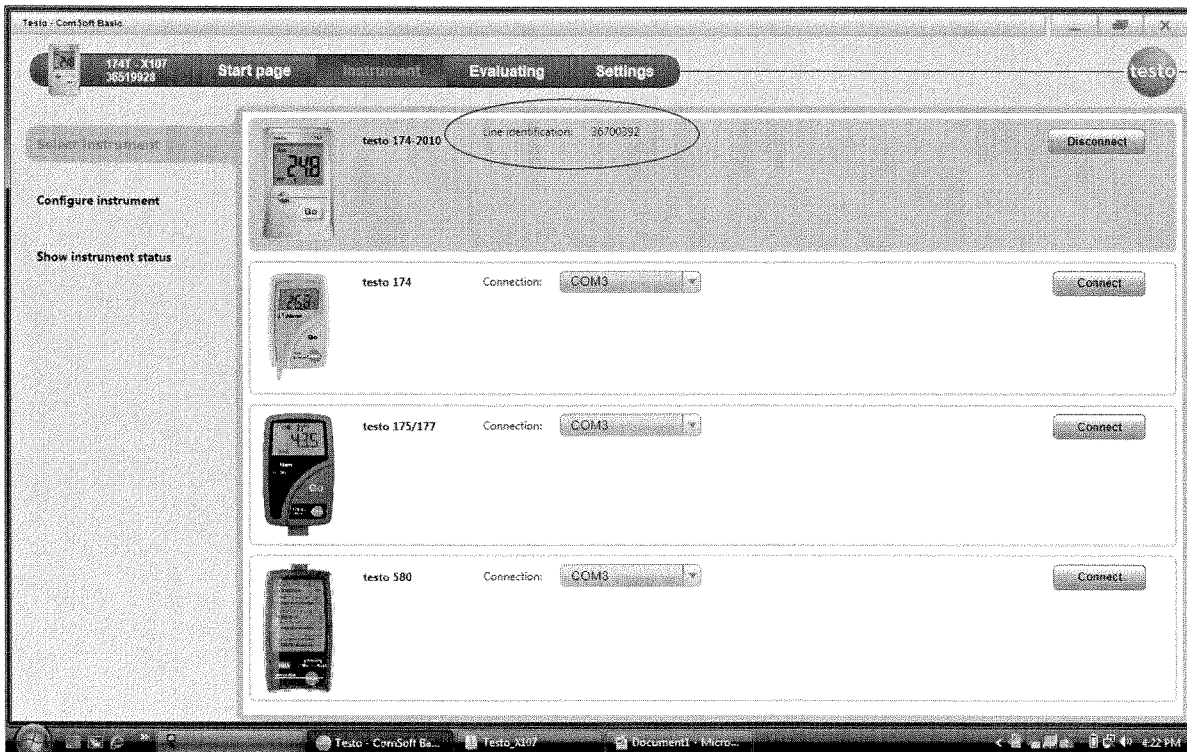

Fig 5.7: Testo confirmation ID
Step 4: You can read line identification when the Testo 174T is connected. Refer fig 5.7